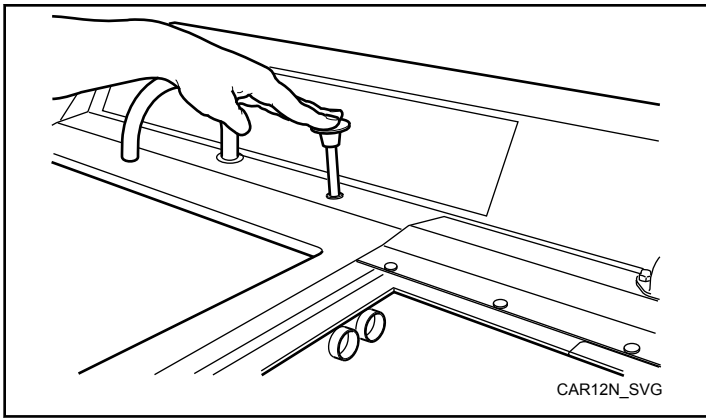

Figure 11
2. Close drain of wash compartment to be used. Refer to *Figure 11*.